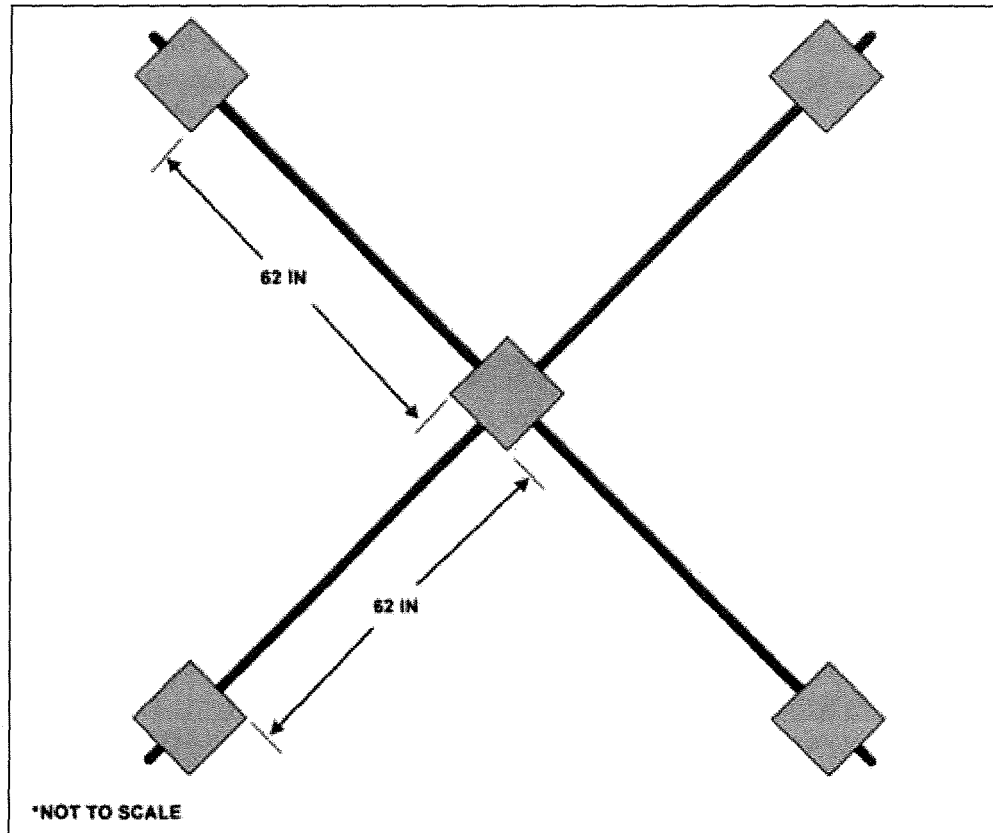

Figure B-2. Climbing bars, dimensions, top view
- The distance from inside post edge to inside post edge is about 62 inches (Figure B-2). This is to allow enough bar space to conduct all exercises safely.